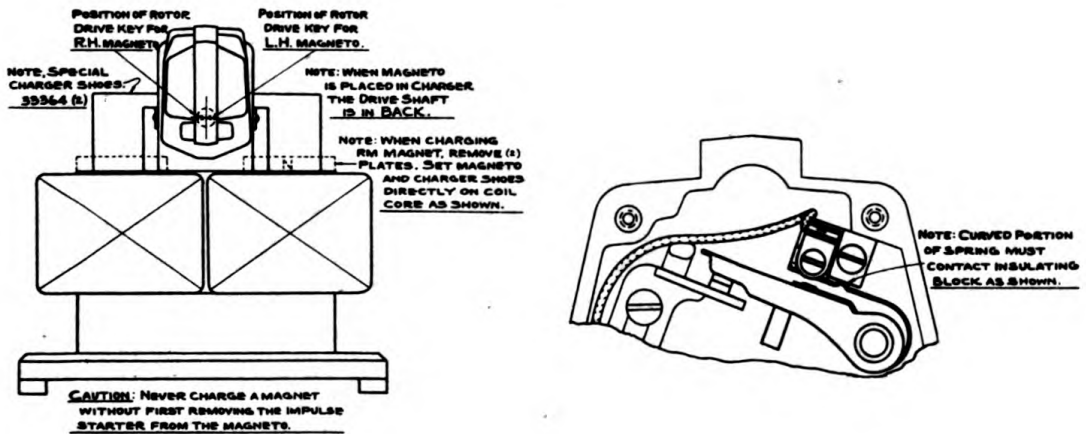

FIGURE 32 - MAGNETO ASSEMBLY DETAILS
4. Magnetize - The magnet should be charged with a Type G Magnet Charger using special shoes 33364 and with the magnet fully assembled in the housing. Never charge a magnet without first removing the impulse starter from the magneto. Place the magneto in the charger as shown in Figure 32, being careful that all the details are followed exactly. Otherwise, an inadequate charge or one of the wrong polarity may be obtained. Also the location and size of the charger shoes on the side of the magneto are important.
8. Circuit breaker parts - Install the fixed contact bracket with two shouldered screws. The free end of the spring on the breaker bar, together with the primary lead terminal are fastened to the insulating block by a small screw and lock washer as shown in Figure 32. Note the exact position of lead wire and terminal. See that the spring has a little twisting tension tending to keep the bar from riding out on its bearing stud. Apply a drop of oil or a film of grease to the bearing stud.